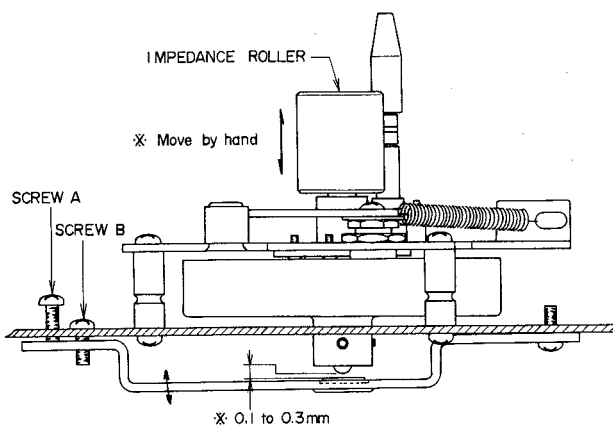

Fig. 7
7. ADJUSTMENT OF IMPEDANCE ROLLER SHAFT LOOSE PLAY (Refer to Fig. 7)